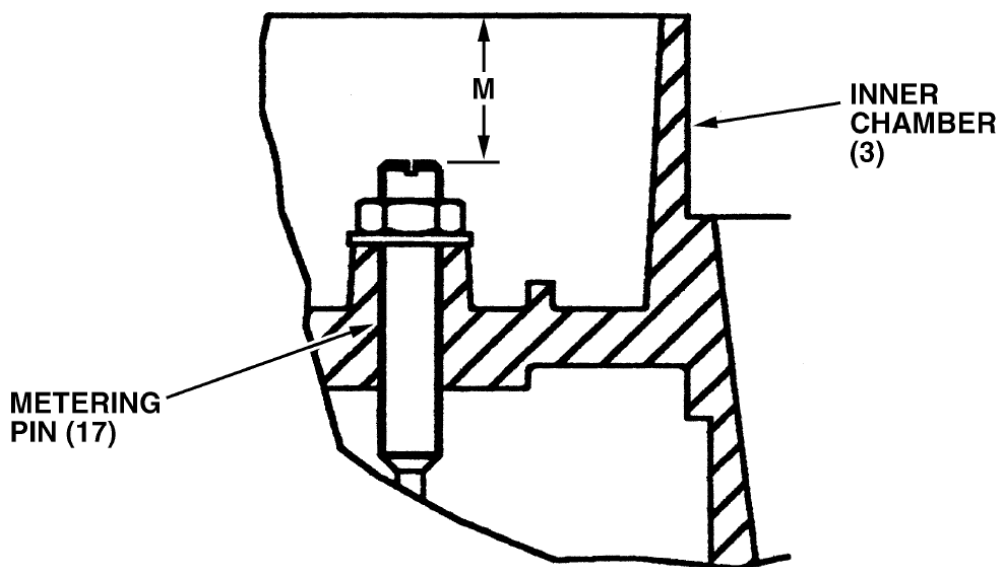

Figure 7. Measuring the Metering Pin Position
- A. With valve on a bench, fully open maintenance valve stem (20).
- C. Remove outlet adapter (2), poppet (4) and strainer (37); refer to Removing and Replacing the Outlet Adapter, the Poppet, and the Strainer (step 7).
- D. Using a deep 1-inch (25.4 mm) hex socket, remove maintenance valve stem (20) from valve body (1).
- E. See Figure 7 and measure and write down Dimension M, the position of metering pin (17) in inner chamber (3). This measurement is required to make sure the adjustment of the valve is retained.
- F. Turn the valve body (1) on its side. Remove retaining ring (44) and lift inner chamber (3) out of valve body (1).